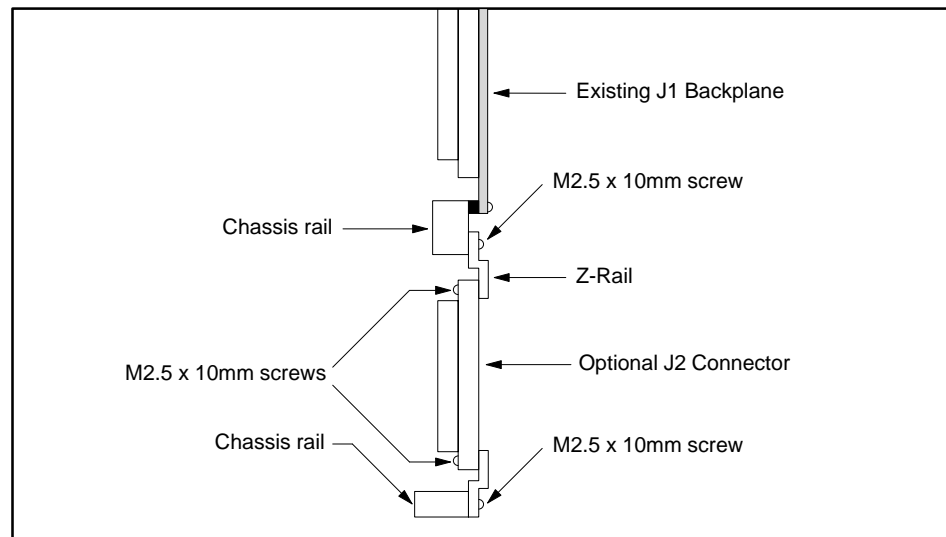

Figure 4-33 Installing J2 Connector
4. Using M2.5 x 10mm screws, mount the Z-Rails onto the rear chassis rails directly, without the backplane spacers, as shown in Figure 4-33.
5. Mount the J2 connector(s) to the Z-Rails, using M2.5 x 10mm screws, as shown in Figure 4-33.